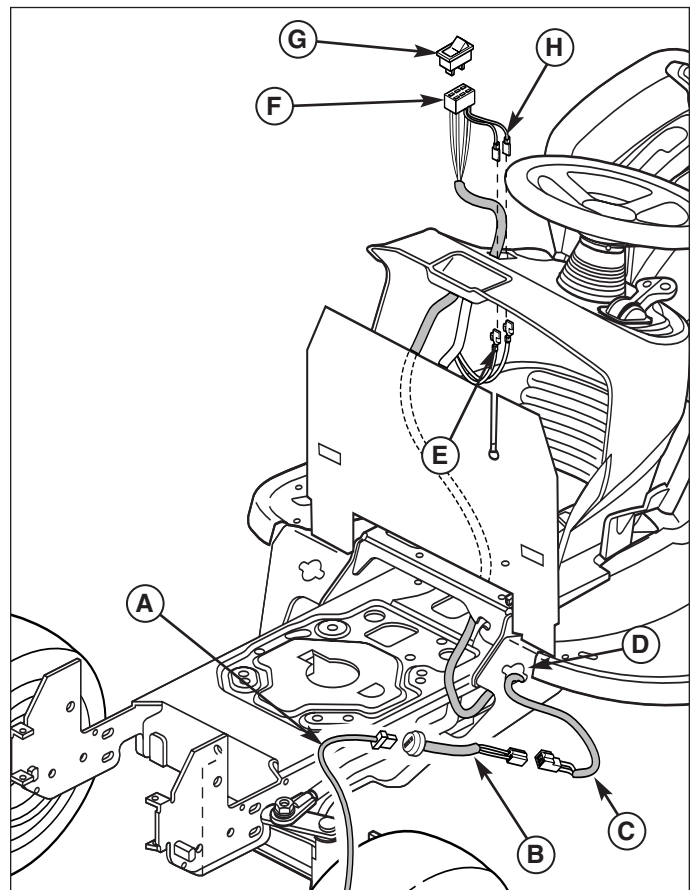

Figure 20. Install Power Port & Switch
2. Route the switch harness (C, F, Figure 20) through the frame and dashboard as shown.
3. Install the switch (G) in the dashboard and connect the upper end of the switch harness (F) to it.
4. Connect the red/yellow power lead (H) to the red/yellow tractor harness lead (E). Connect the black power lead to the black tractor harness lead.
5. Mount the trailer plug socket (B) in the frame at location (D). Connect the trailer plug lead (B) to the lower switch harness connector (C).
6. Do not connect the snowthrower wire harness (A) at this time.